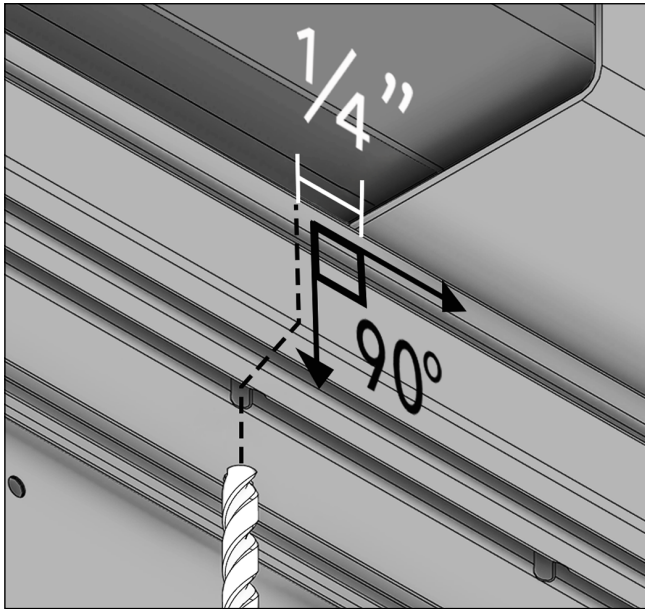
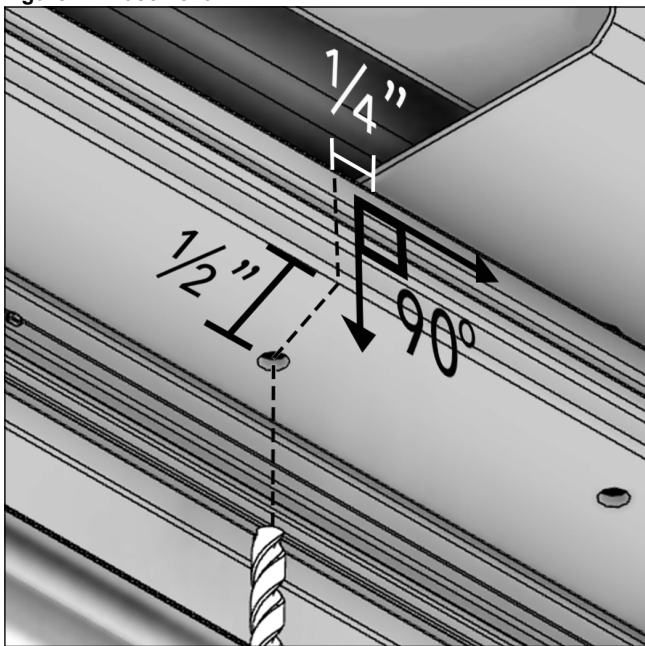

Figure 21 Casement
Figure 22 Direct Glaze
14. Once the interior cover(s) are removed, measure 1/4" off the edges of the gusset. See Figure 21 and Figure 22.